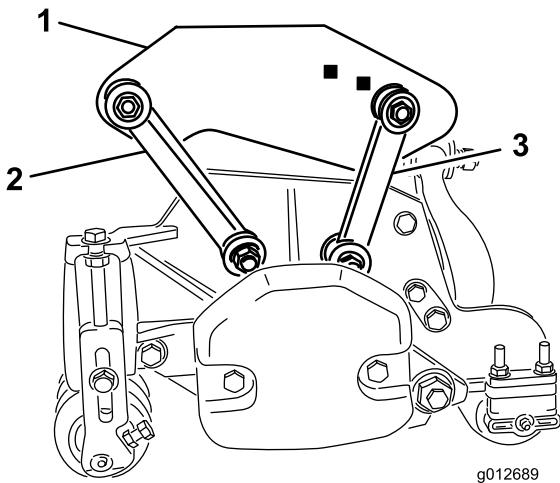

Figure 19
- Secure the front mounting links to the carrier frame holes with a bolt (3/8 x 2-1/4 inch), 2 flat washers, and a locknut, as shown in Figure 19. Position a washer on each side of the link when mounting. Torque the fasteners to 31 ft-lb (42 N·m).
- Secure the rear mounting links to the rear carrier frame holes with a bolt (3/8 x 2-1/4 inch), 2 flat washers, and a locknut, as shown in Figure 19. Position a washer on each side of the link when mounting. Torque the fasteners to 31 ft-lb (42 N·m).